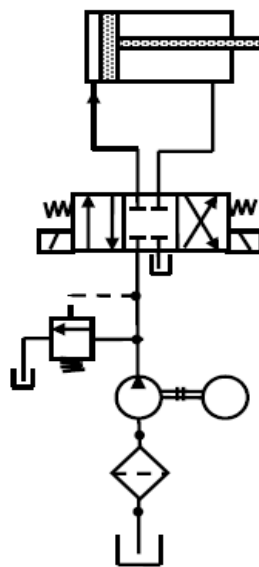

Fig.2.1 - Suction filter
- **Intake or inline filters (suction strainers):** These are provided first before the pump to protect the pump against contaminations in the oil as shown in Fig. 2.1. These filters are designed to give a low-pressure drop, otherwise, the pump will not be able to draw the fluid from the tank. To achieve a low-pressure drop across the filters, a coarse mesh is used. These filters cannot filter out small particles.